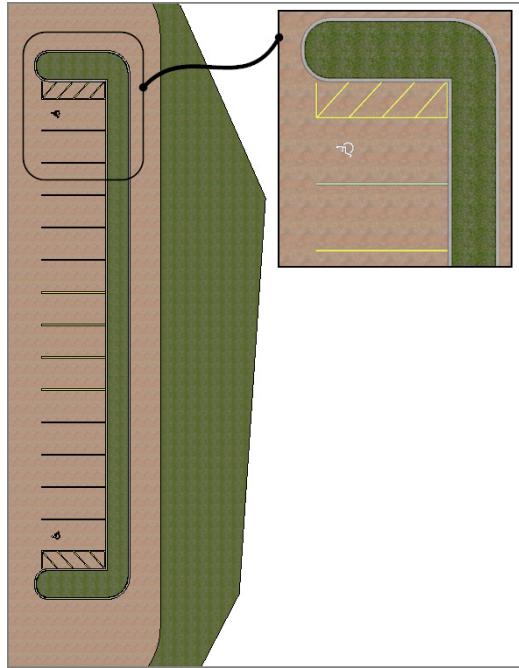

FIGURE 18.17: The parking spaces
5. Mirror the ADA space and the ADA symbol to the north of the parking island, as shown in Figure 18.17.
6. Add a parking space 9' × 18' - 90 deg (2743mm × 5486mm), and copy it up to fill the island with parking (see Figure 18.17).